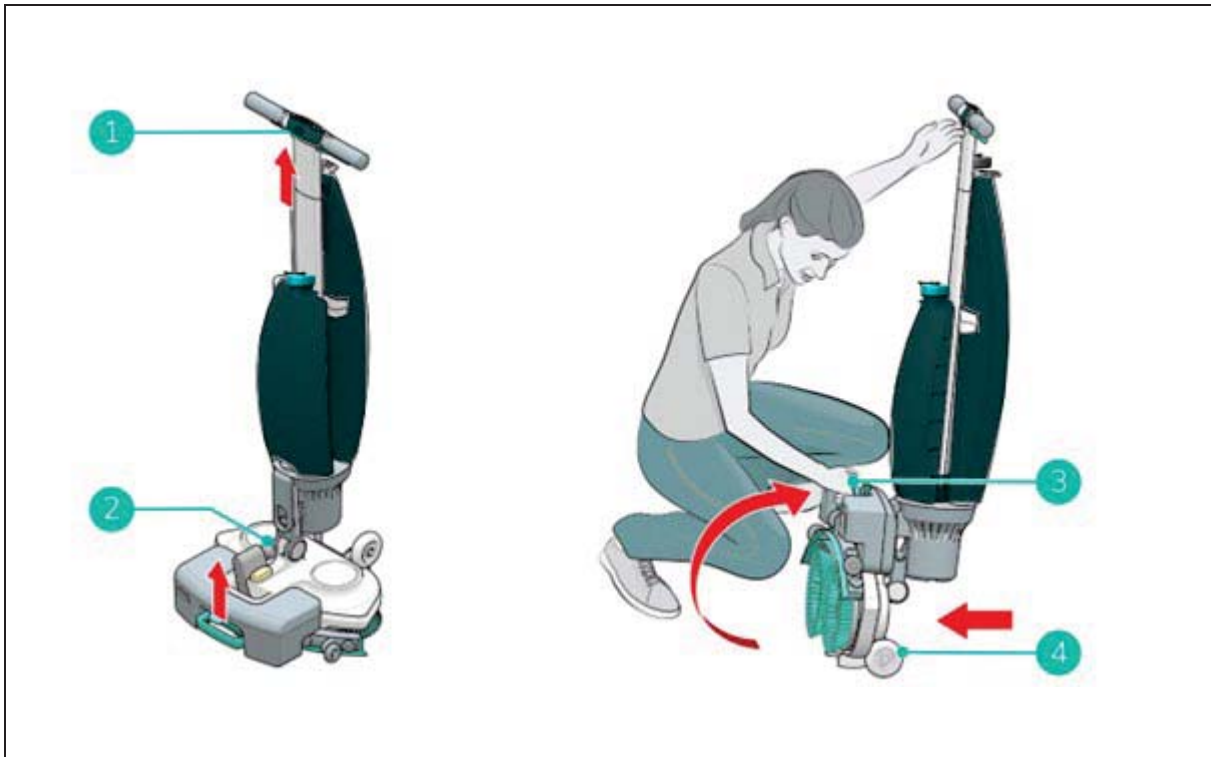

Figure 5
1. Make sure the vacuum hose (Figure 5, pos 2) is pushed back into the machine so it cannot get squeezed.
2. Crouch down and hold the handle (Figure 5, pos 1) with one hand while holding the scrub deck (Figure 5, pos 3) with your other hand.
3. Lift the scrub deck slowly until it stands upright on the front wheels (Figure 5, pos 4). Guide the body towards the scrub deck until it snaps into a resting position.